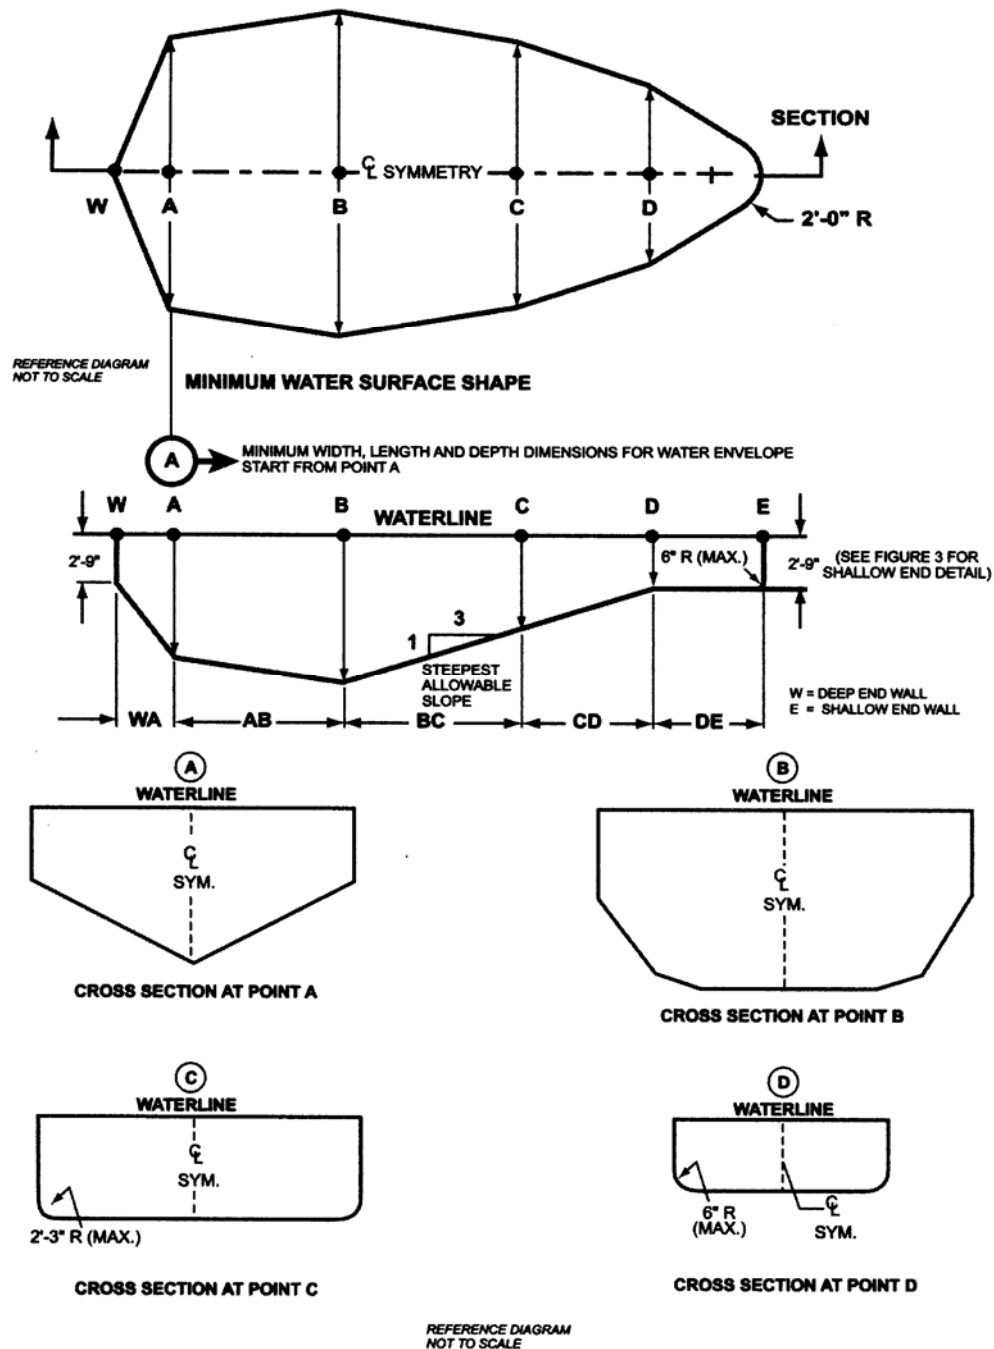

Figure 3- Minimum water envelope
IMPORTANT: The distance for setting the front bolt of the jig "S" from the waters edge is valid only if the minimum water depth is maintained at the tip of the board noted at point A in ANSI/NSPI-5 2003, Figure 3 and Table 1. If minimum water depth is not maintained the distance "S" must be adjusted accordingly.
*WA DIMENSION IS VALID ONLY IN CONJUNCTION WITH MIN. DEPTH AT POINT A (SEE ANSI/NSPI-5 2003 FIGURE 3 AND TABLE 1) FOR POOL TYPE.
1. READ CAREFULLY the following, and pages A through E, which have been extracted from ANSI/NSPI-5 2003 and pay particular attention to Figure 3 and Table 1 set forth therein.
8. **IMPORTANT:** Refer to Table 2. Maximum diving board length, maximum height over water at point A and minimum cross section dimensions at point A and B shall be in accordance with Table 2 and Fig 3.
5.3.3 The walls of Type I pool, when defining the minimum diving water envelope, shall be plumb or outside of Type 1 water geometry. (See figure 3, table 1.)
- Figure 3 drawings are not to scale. (For pool types, see Glossary.)
5.8.2.1 Diving equipment installation and use instructions shall be provided by the diving equipment manufacturer and shall specify the minimum water dimensions required for each diving board and diving stand combination. They may refer to the water envelopes type of their choice by dimensionally relating their products to Point A on the water envelopes as shown in figure 3 and table 1, 5.9.1 through 5.9.3.
5.9 Figure 3 contains suggested drawings and diagrams for minimum water envelope for swimming
pools designated type I - V. Individual pool types are shown in figure 3 and table 1.
5.9.1.2 Point A as shown in figure 3 and table 1 shall be the reference point of origin for all dimensions defining the minimum water envelope.